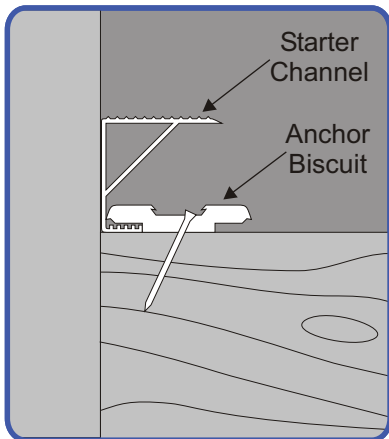

Figure 2
**Step 2. Install starter channel.** Starter channel should be secured to the deck substructure along any edge of the deck surface that will abut a vertical surface (such as the outside wall of a home). Place the flat side of the starter channel against the vertical surface. Use anchor biscuits to push the starter channel snug against the vertical surface. Use a 1½" deck screw to secure the anchor biscuit to the deck substructure (see Figure 2).